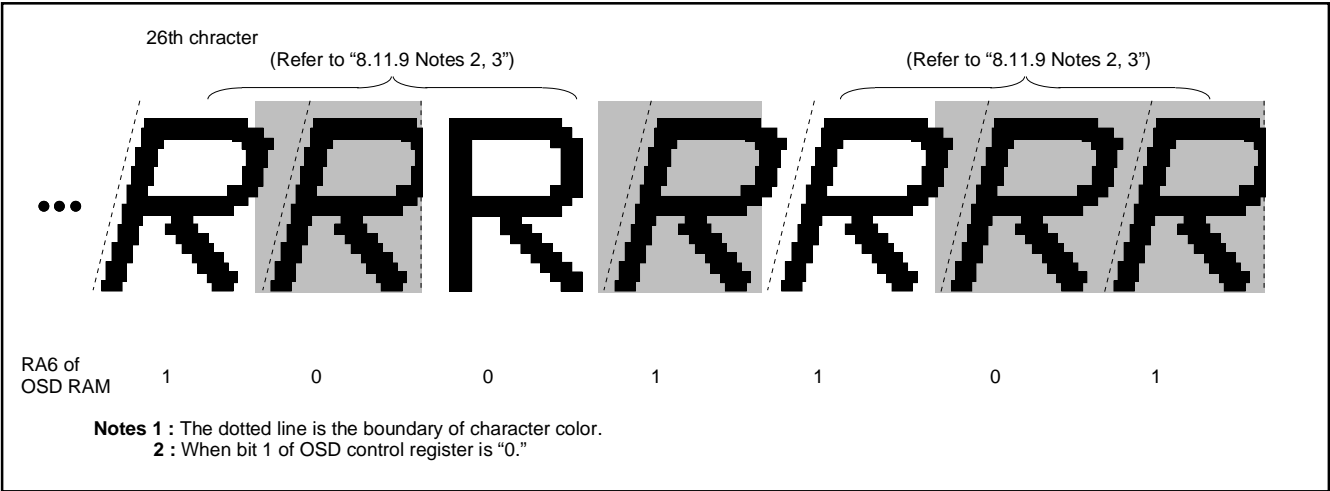

Fig. 8.11.19 Example of Italic Display
- 2:** The boundary of character color is displayed in italic. However, the boundary of character background color is not affected by the italic (refer to Figure 8.11.19).
- 3:** The adjacent character (one side or both side) to an italic character is displayed in italic even when the character is not specified to display in italic (refer to Figure 8.11.19).